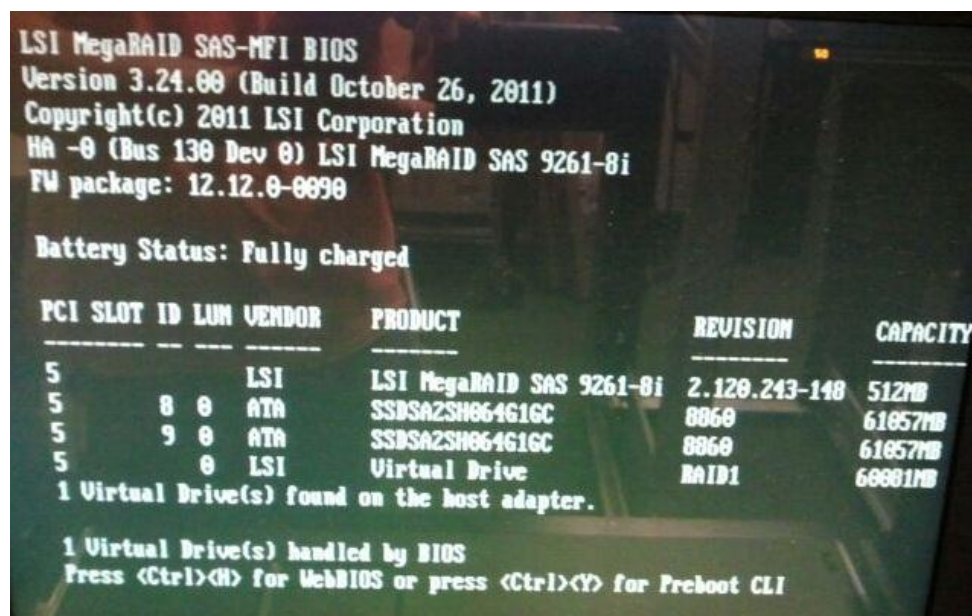

Figure 19: MegaRAID controller card correct initialization and Firmware
3. After rebooting, check the firmware version of the SAS controller. This will appear after the BIOS and first LSI adapter POST screens. Figure 19 above is the screen shot to refer.